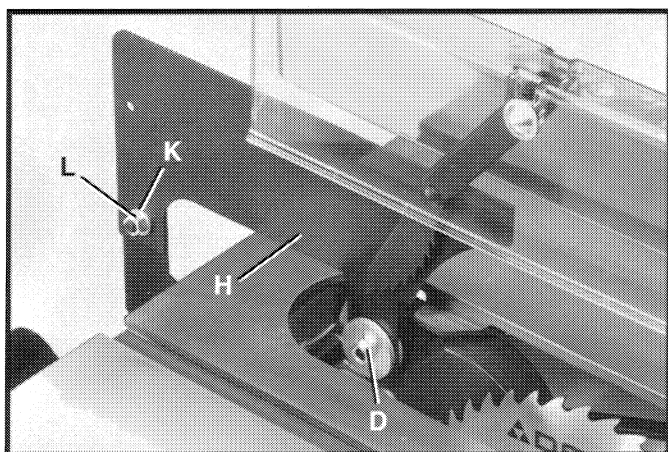

Fig. 23
3. Assemble blade guard and splitter assembly (H) Fig. 23, between the two large washers and tighten outer nut (D).
4. Fasten the rear of blade guard and splitter bracket assembly (H) Figs. 23 and 24, to the rear splitter mounting bracket using the 5/8" long carriage bolt (J), 5/16" I.D. flat washer (K) and 5/16-18 hex nut (L), as shown in Figs. 23 and 24.